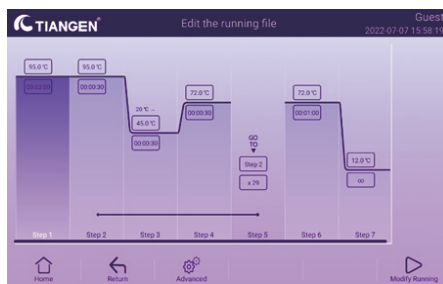

FIG.4.14 Edit running file
- (1) It supports the function of programming in the middle of running, clicking "Edit", users can modify the program during the running process (Fig.4.14), and after clicking "Modify Running", the unfinished steps of the program will continue to run in accordance with the modified program;
- (2) Click on the "pause" button during program operation, the program time is suspended, the module always maintains the temperature of the step, click on the "continue" program continues to run;
- (3) Click "Next", the screen prompts users to skip the running steps.